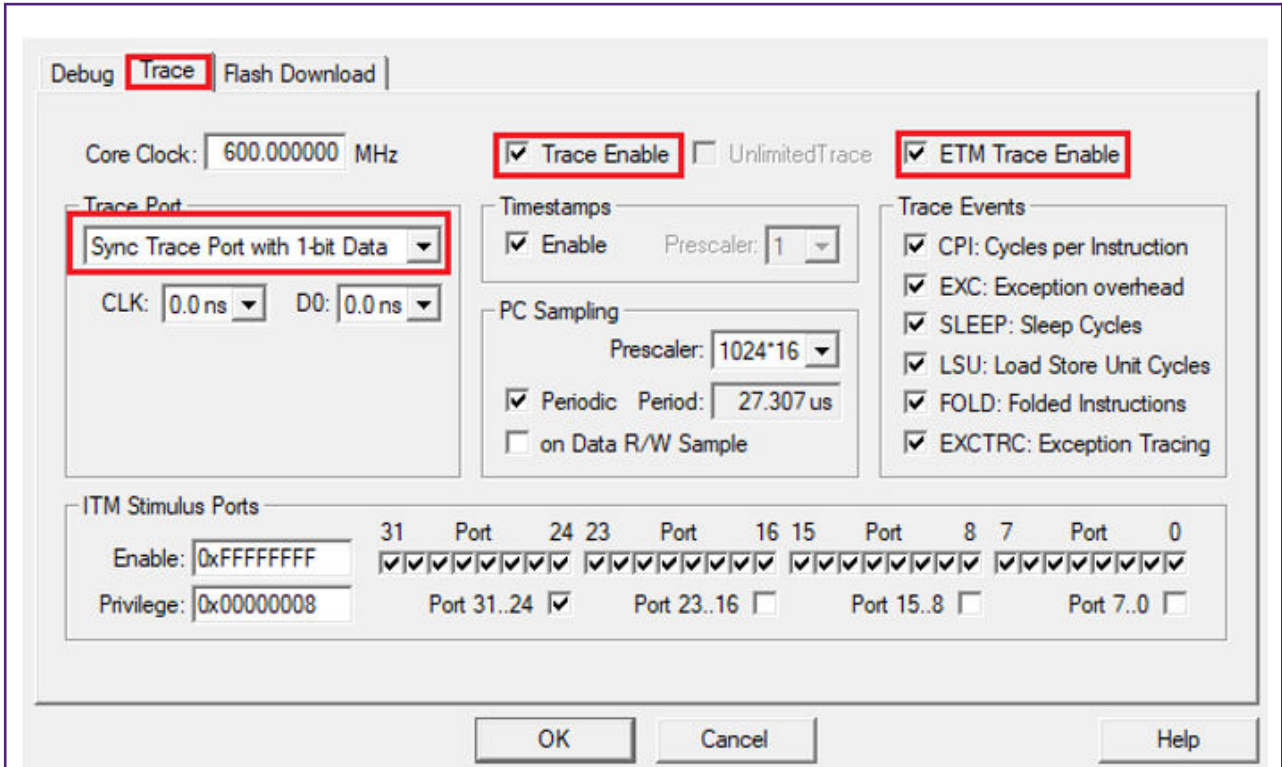

Figure 14. Trace settings in MDK
2. Click **Trace** to set the ETM, as shown in Figure 14.